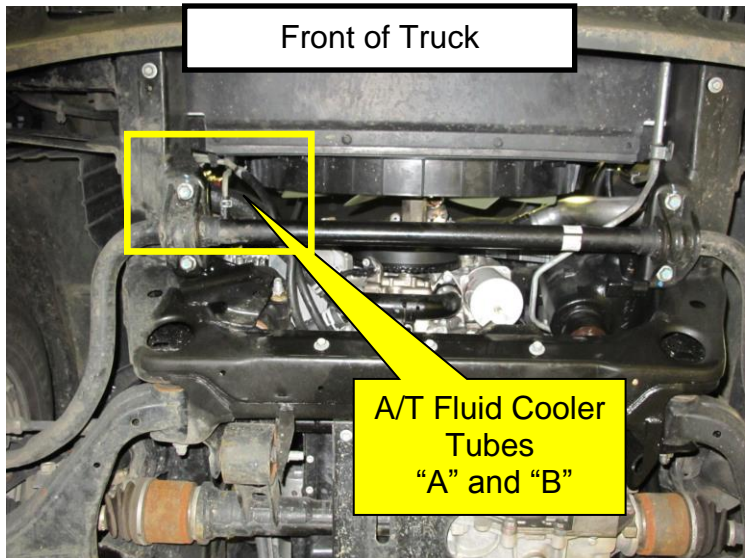

Figure 4
5. Locate the A/T fluid cooler hose "A" and "B" connections at the front passenger side of the truck (Figure 4).